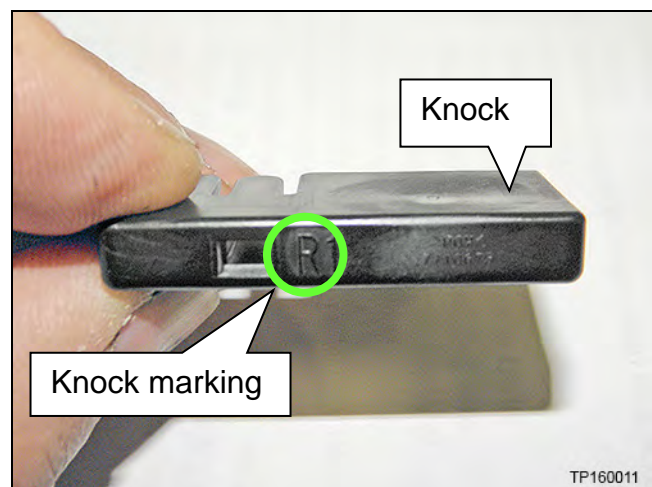

Figure 10
NOTE: Knocks are marked left (L) and right (R). Figure 10 shows a knock for the passenger side and is marked "R".